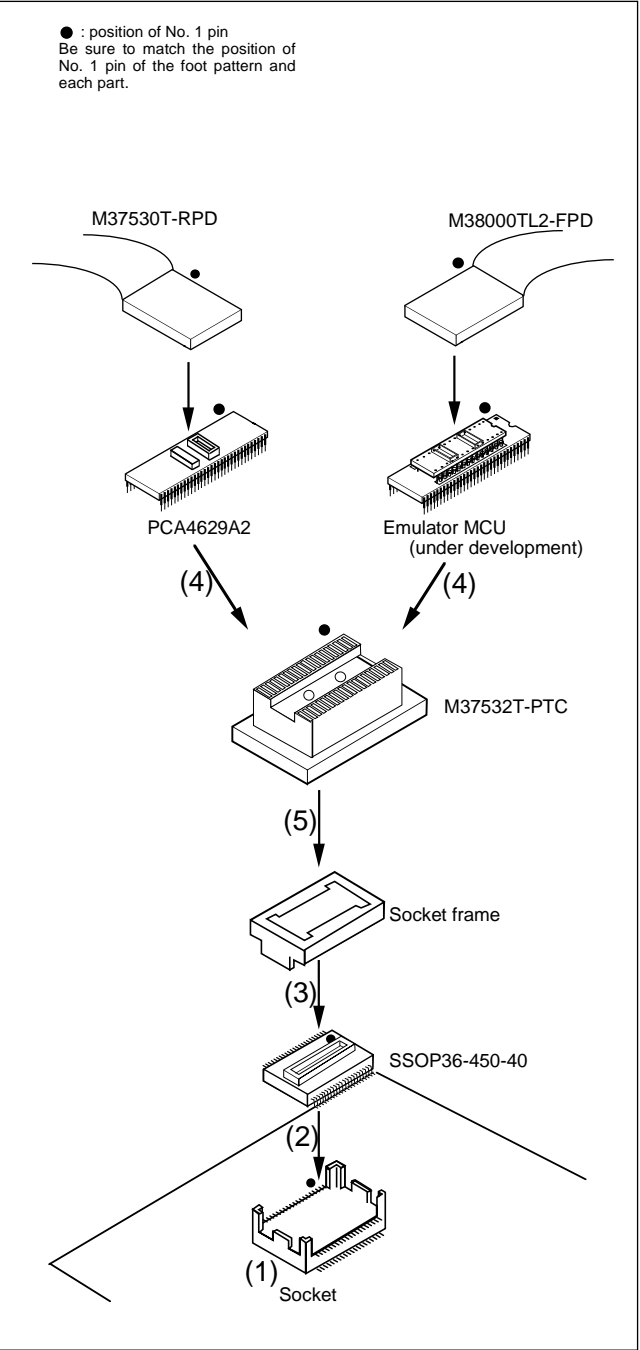

Figure 2 Usage of M37532T-PTC
4. Application (see Figure 2)
5. Connection Procedure (see Figure 2)